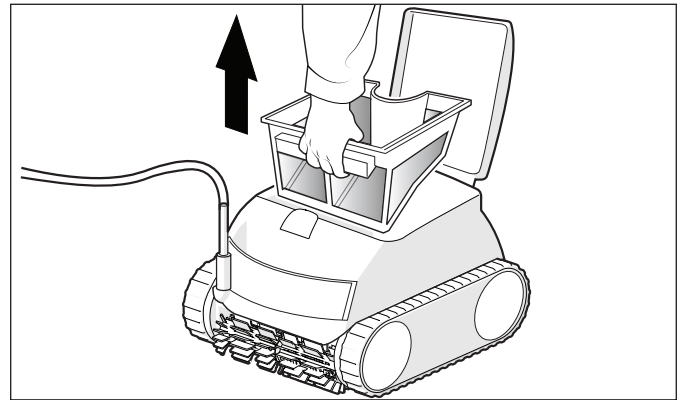

Figure 12. Remove Filter Canister
3. Remove the filter canister from the body (Figure 12).